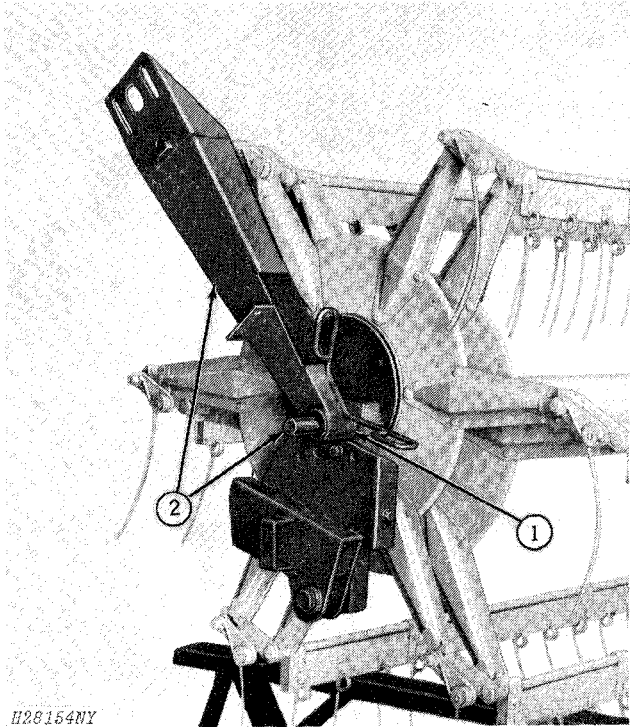

Fig. 60-Installing Right-Hand Reel Mounting
1. Place two 1-5/8 x 2-1/4 x .120-inch flat washers on reel shaft (Fig. 60).
2. Slide right-hand reel mounting on reel shaft (Fig. 60).
4. Slide driven reel sprocket with a 3/8 x 2-1/8-inch Woodruff key on reel shaft (Fig. 60). Align outer surface of sprocket with end of shaft then install and tighten two 3/8 x 7/8-inch square head set screws, with jam nuts, in the sprocket hub.